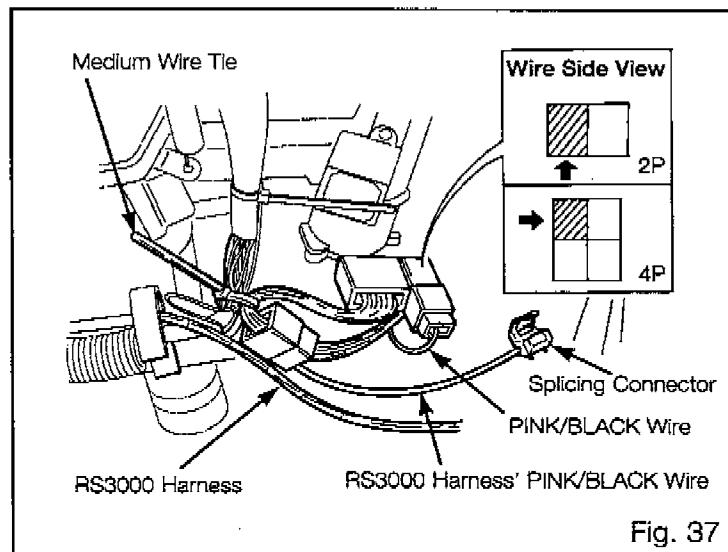

Fig. 37
(19) A) Locate and disconnect the 4P or 2P connector next to the 8P Ignition Switch connector. Fig 37
B) Turn the 4P or 2P female (terminals) connector so the wires face you and the tab is on top. Fig 37
C) Locate the wire in the upper left corner of a 4P connector, or the left corner of a 2P connector. Using a splicing connector, attach the RS3000 harness' PINK/BLACK Key Unlock Warning wire. Fig 37